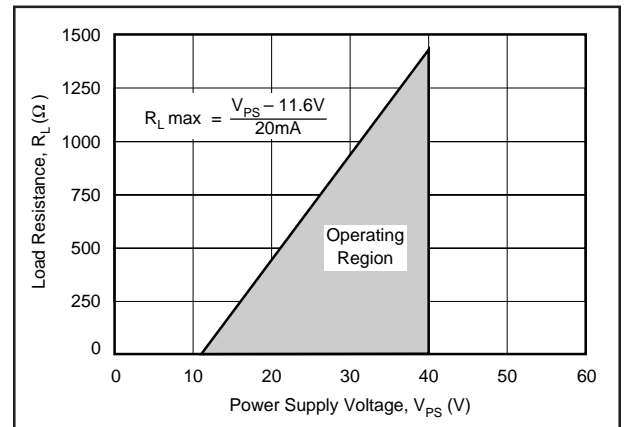

FIGURE 4. Power Supply Operating Range.
6. Always choose  $R_L$  (including line resistance) so that the voltage between pins 7 and 8 ( $+V_{CC}$ ) remains within the 11.6V to 40V range as the output changes between the 4-20mA range (see Figure 4).